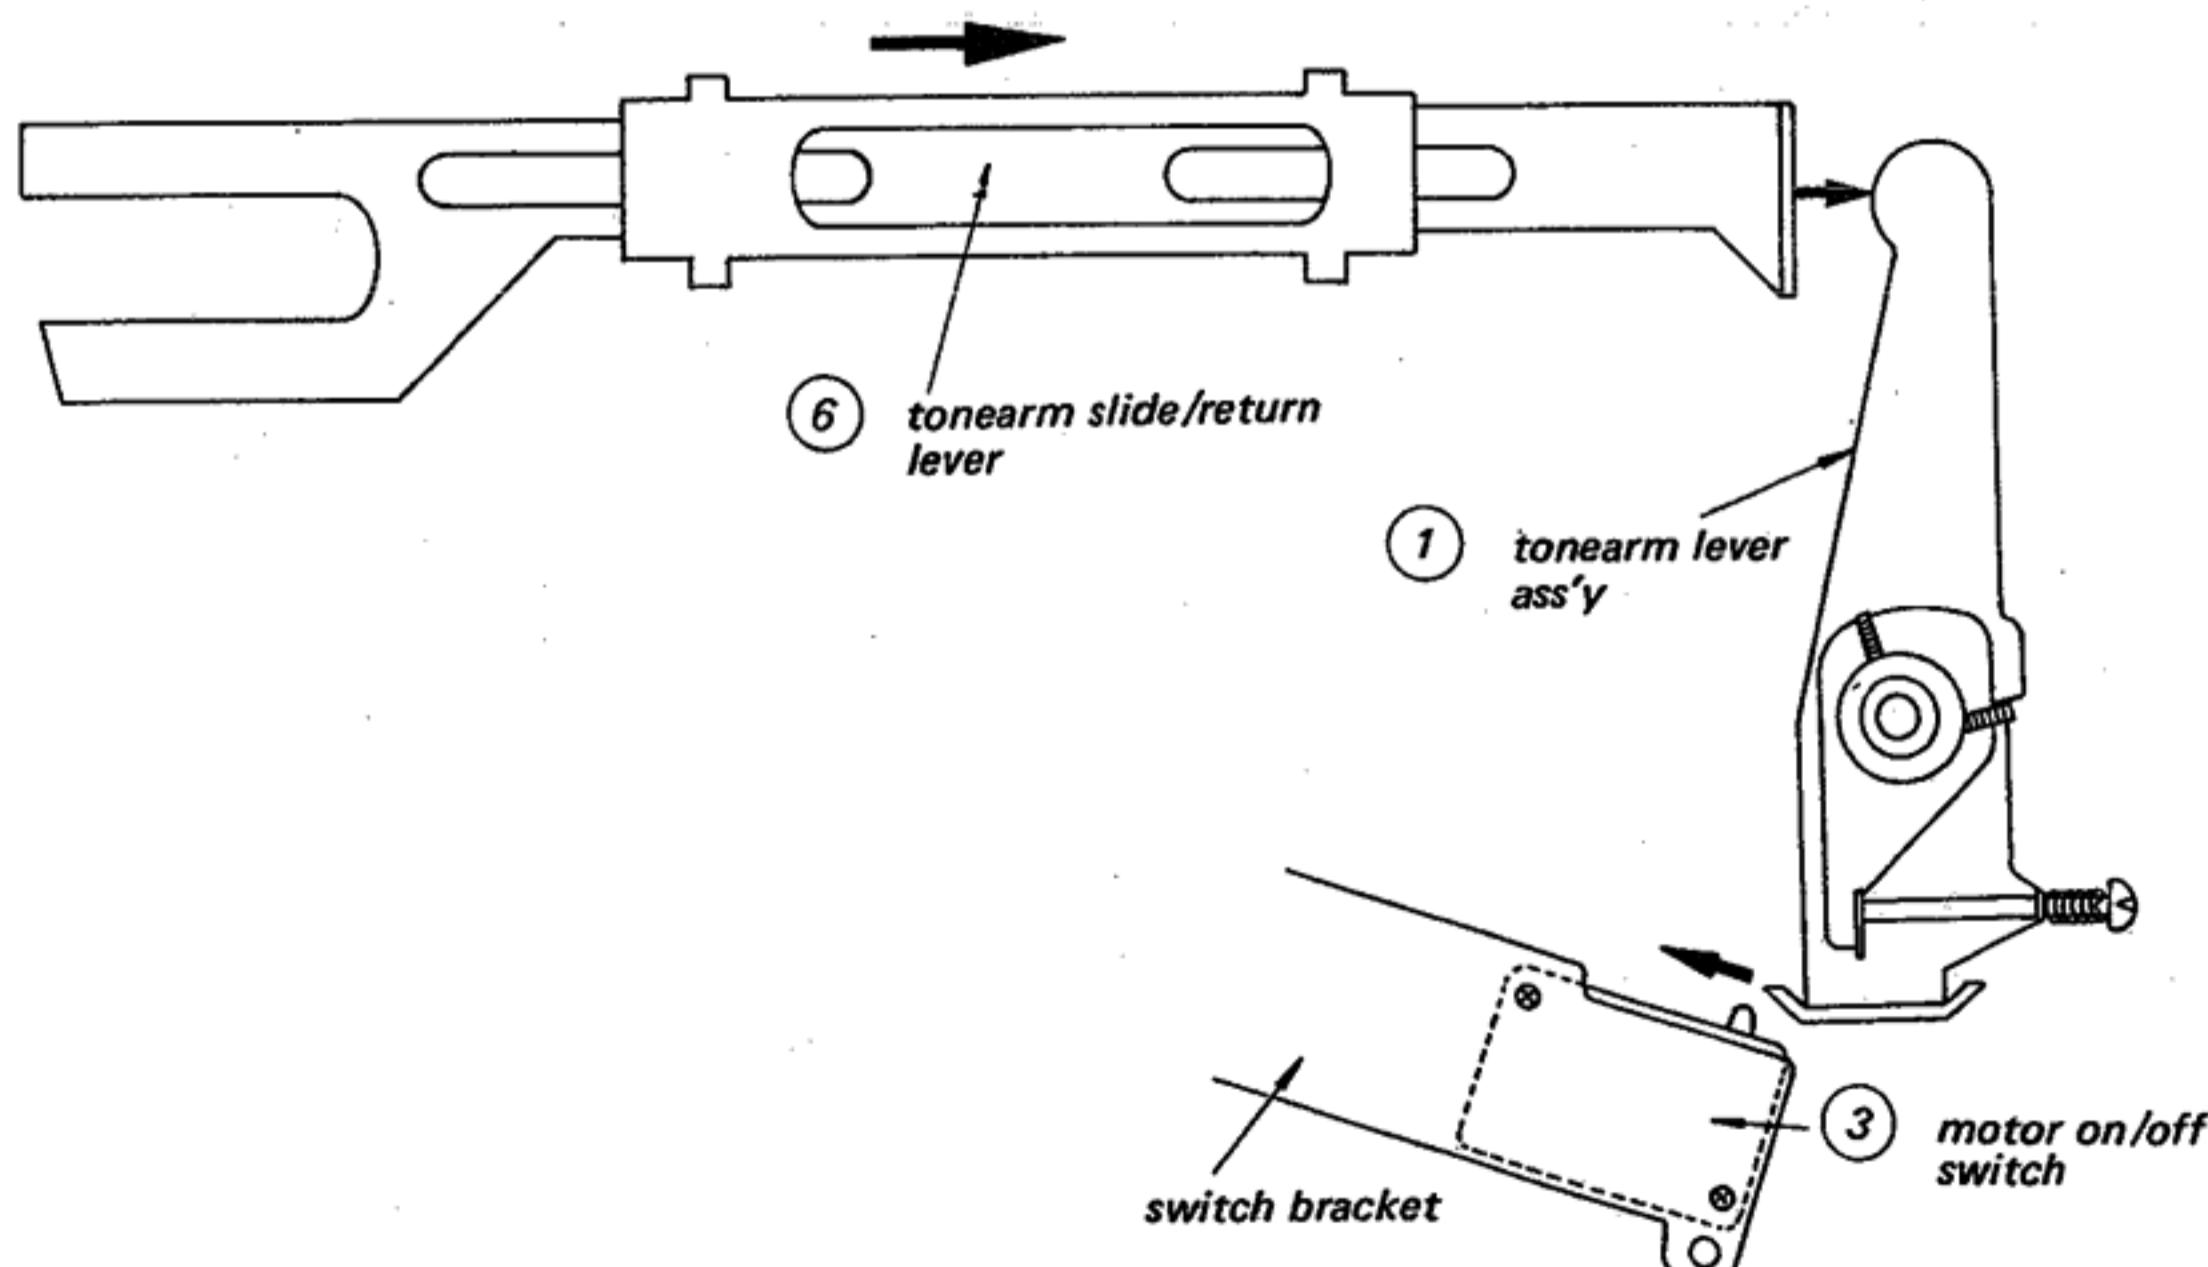

Fig. 1-6. Tonearm slide/return lever movement
The movement of tonearm lever ass'y retains the motor on/off switch (3) on position. This ensures power to the motor to complete last half cycle of rejecting operation after the tonearm has moved back to its rest. When the main cam (8) comes to its last movement, the tonearm slide/return lever (6) is moved back to its original position, cutting off power to the motor, because the motor on/off switch (3) is pressed by means of the tonearm lever ass'y (1) as shown in Fig. 1-6. Now the tonearm returns to its rest.